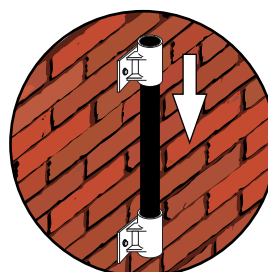

Fig 3.
3. Place the ground socket into the brackets, ensuring it sits in the bottom of the bottom bracket properly and level with the TOP EDGE of the top bracket (see Fig 3).